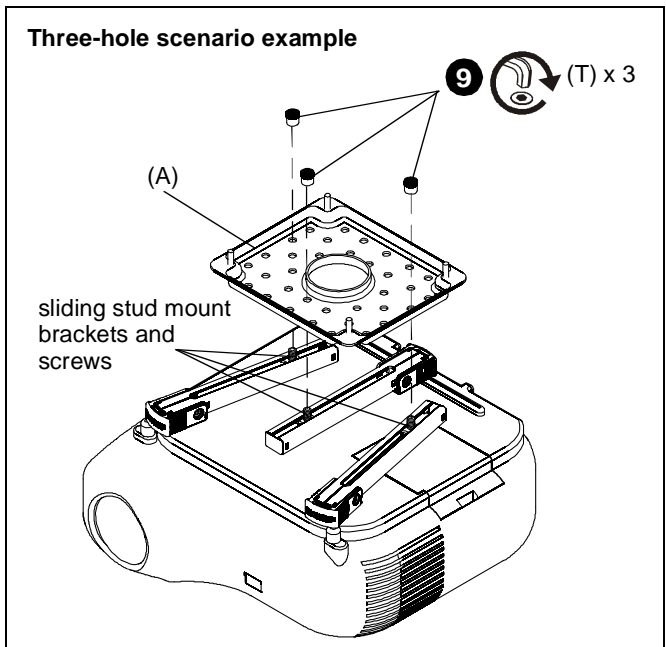
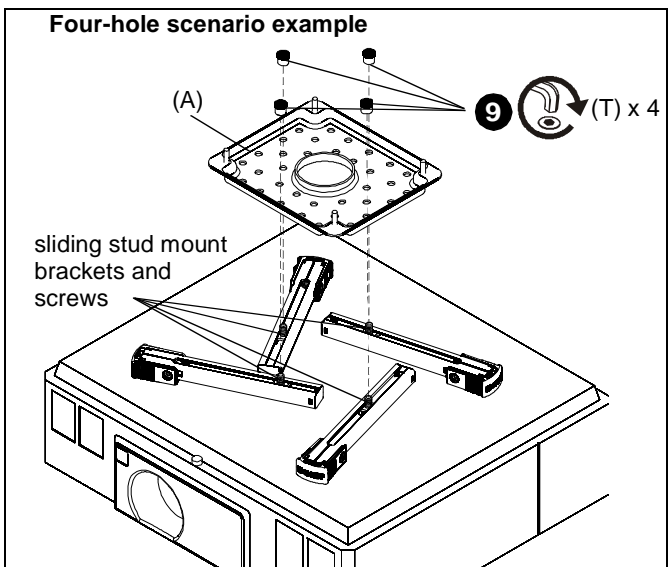

Figure 6
Figure 7
- Manuever legs so that sliding stud mount brackets and screws are towards the middle of the projector. (See Figure 6) and (See Figure 7)
- Position sliding stud mount brackets and screws so that SLBU or SLMU main plate (A) can be evenly mounted to legs. (See Figure 6) and (See Figure 7)
- Use 1/4" hex key (U) to secure Allen nuts (T) to screws on sliding stud mounts. (See Figure 6) and (See Figure 7)